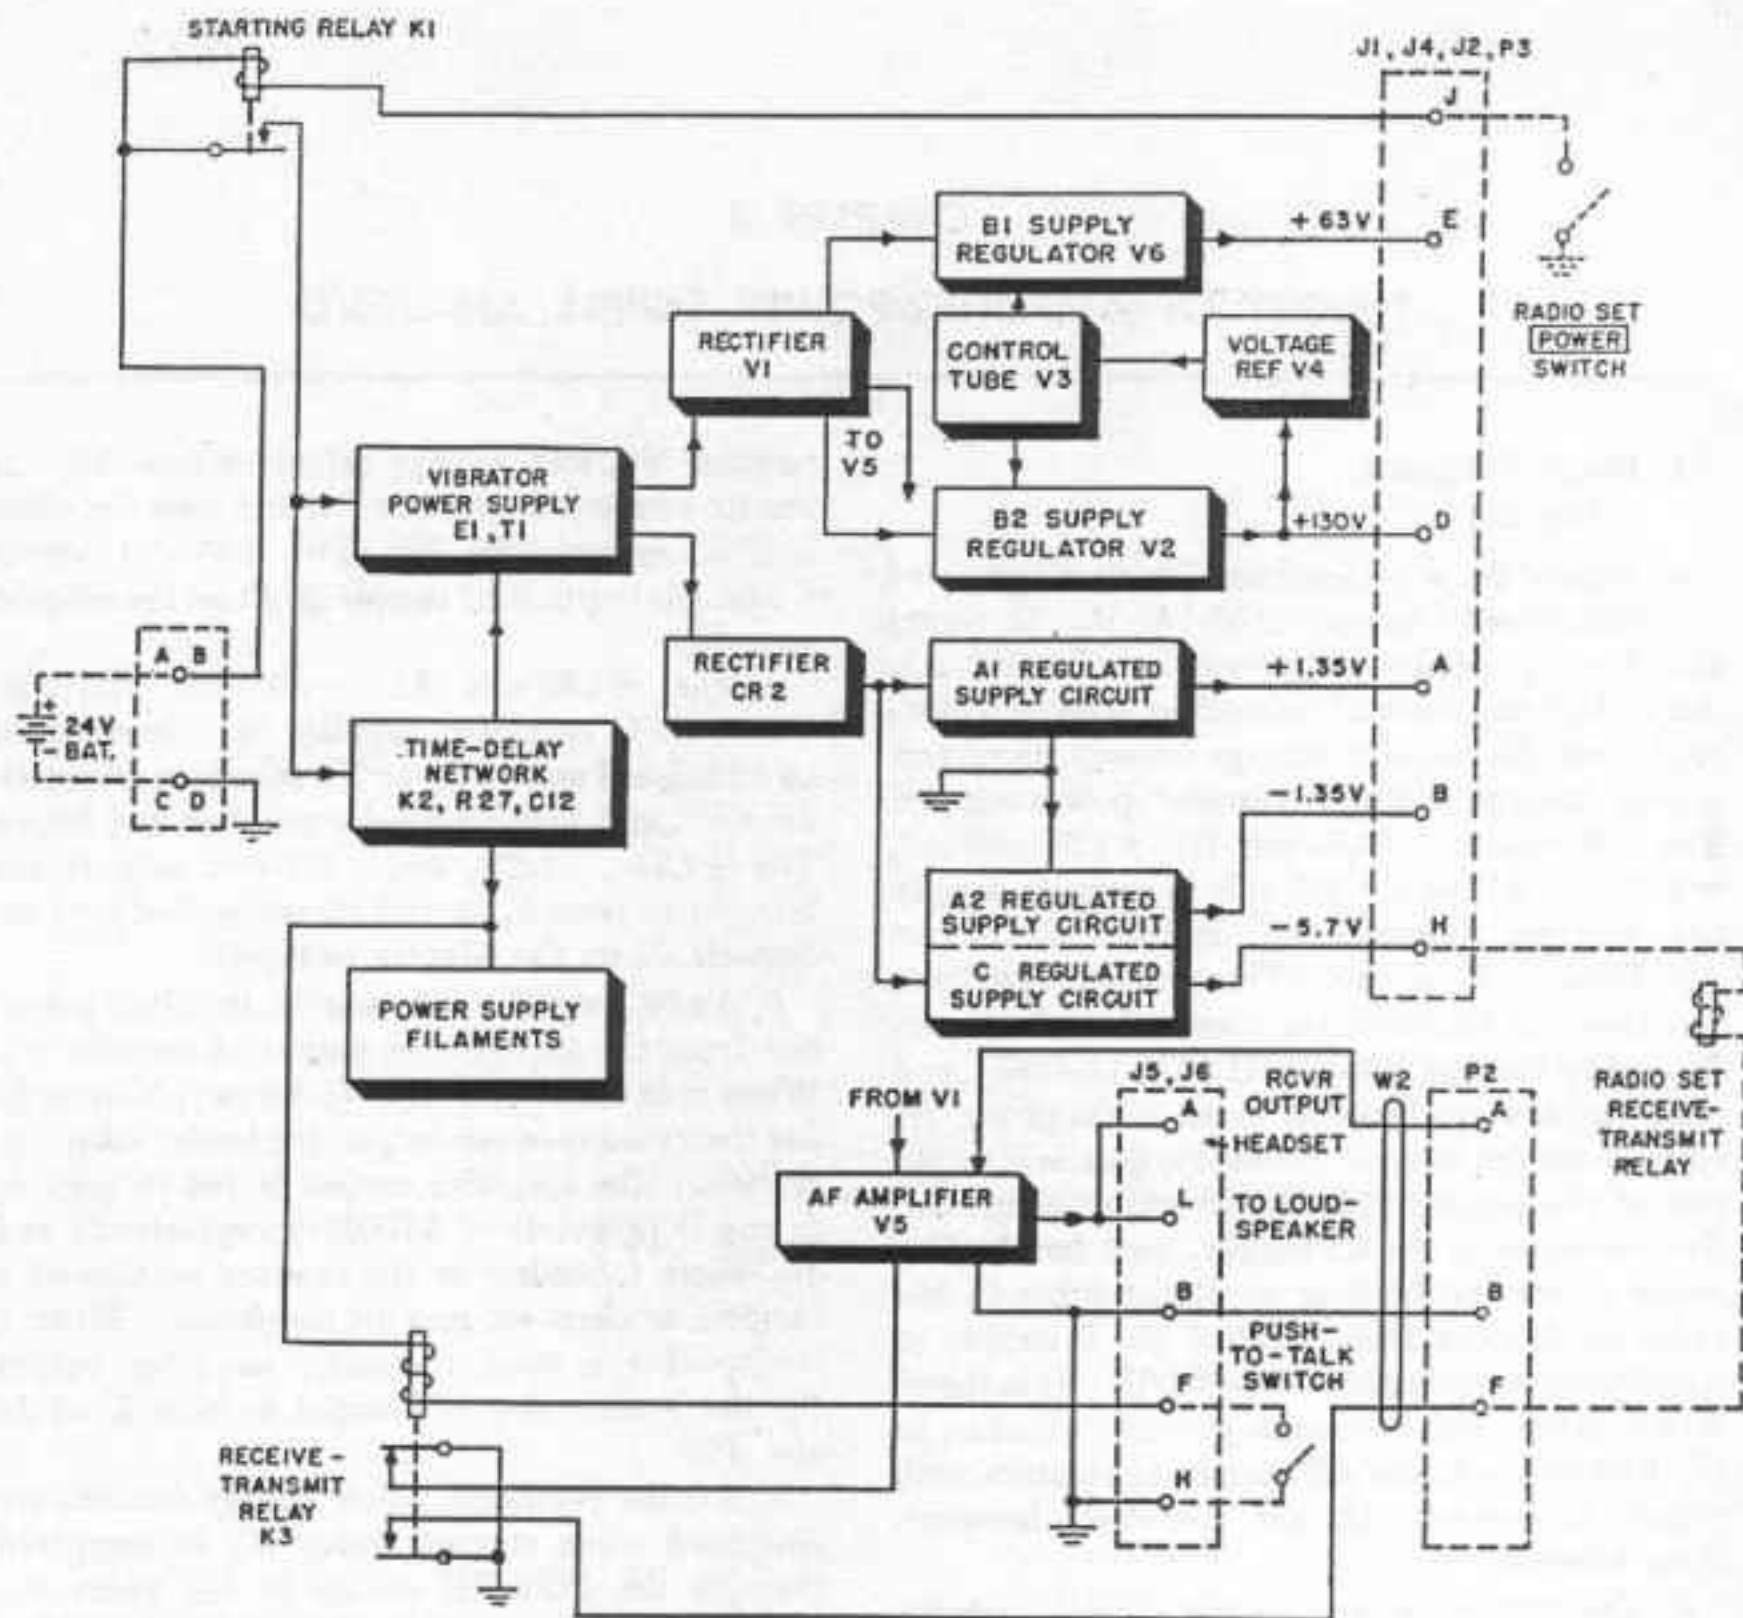

Figure 20. Amplifier-power supply AM-598-U, functional block diagram.
(fig. 20)
a. Figure 20 is a functional block diagram of Amplifier-Power Supply AM-598/U. It shows that five regulated voltage supplies (B1, B2, A1, A2, and C) and one audio amplifier stage are powered from the common storage battery input terminals through a single vibrator power supply. The +63-volt B1, +130-volt B2, +1.35-volt A1, -1.35-volt A2, and -5.7-volt C circuits supply the voltages required to operate Radio set AN/PRC-8, -9, or -10. These circuits perform functions for the radio set identical to those performed by Battery BA-279/U (TM 11-4065), and their outputs are brought to an eight-prong receptacle on the adapter assembly, that is a duplicate of the Battery BA-279/U output connector. For convenience, the A2 supply, used for the filaments of two calibrating oscillator tubes in the radio set, is taken from a tap on the C supply in Amplifier-Power Supply AM-598/U. It is therefore negative with respect to ground, whereas, in the battery pack, the A2 supply is positive with respect to ground. Circuit operation, however, is not affected.